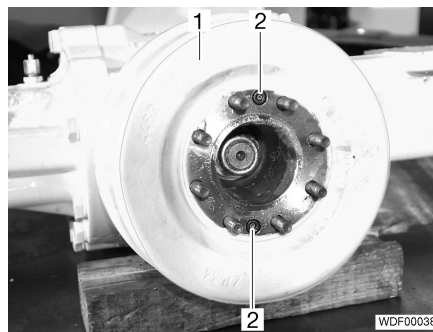

Fig. 302 Brake drum
- Unscrew the 2 screws (Fig. 302,2).
- Remove the brake drum (Fig. 302,1).